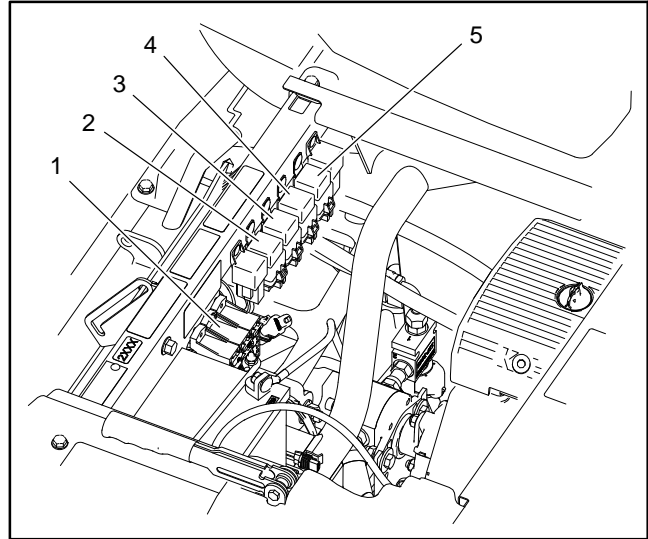

Figure 71
Your Multi Pro 1750 uses a number of electrical relays that have five (5) terminals. The relays are located in the power center compartment of the battery box (Fig. 71).